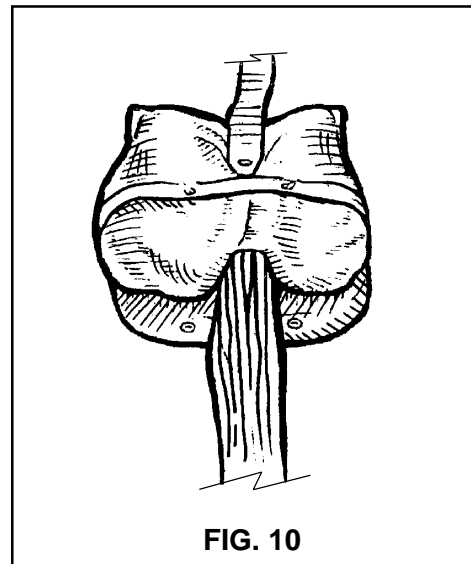

FIG. 10
10. Place ears into top corners of the free bag (FIG. 10). Place main bulk of canopy into the remainder of the free bag.